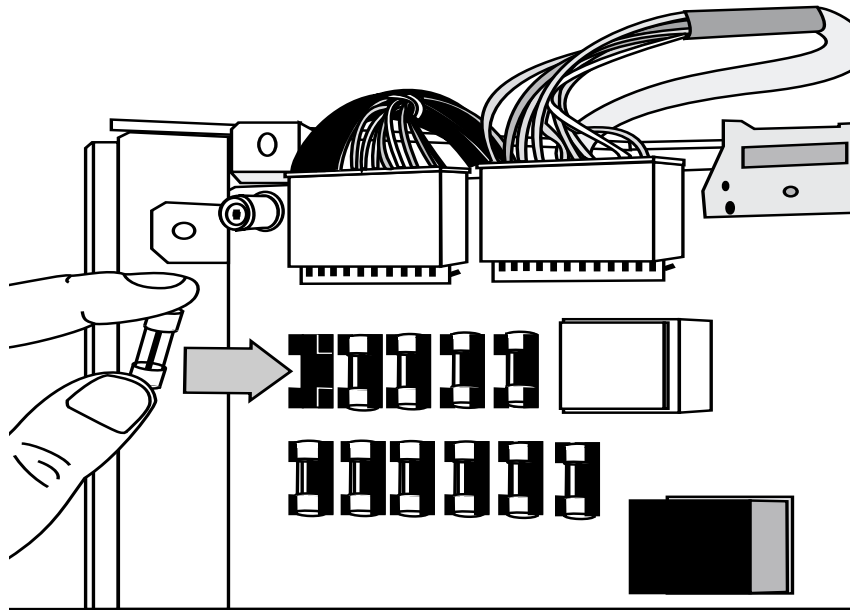

Figure 7-1. Replacing a Fuse on the Main System PCB
5. Locate and replace the defective fuse on the Main System PCB with a fuse of the same type, voltage, and current rating. See Table 7-1 on page 7-2 for a list of the proper fuses. Figure 7-1 on page 7-5 demonstrates how to replace the fuse.